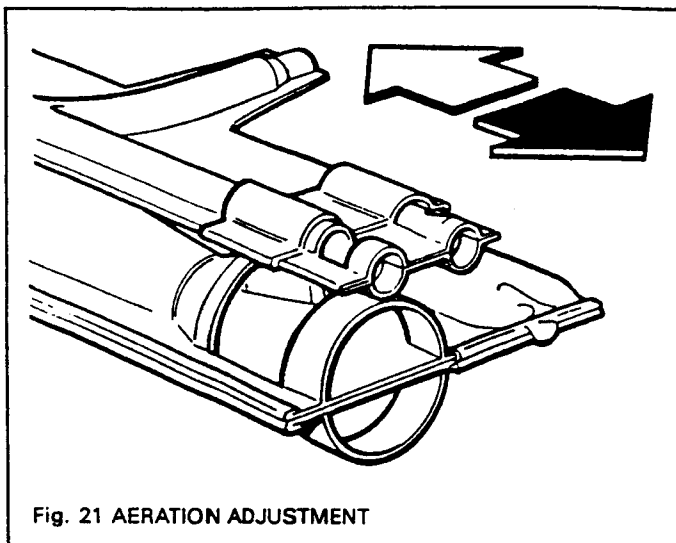

Fig. 21 AERATION ADJUSTMENT
- (c) Slide the aeration sleeve on the decorative flame burner either way to give the correct flame pattern (see fig. 21). There should be no appreciable deposits of carbon on the logs.